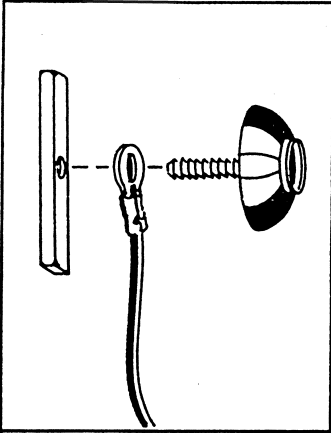

Fig. 1
- 1. Unscrew the 1 + 1 Slot Wall Connector and place the eyelet ends of the selected cables onto its screw threads.** Screw the flat bar **loosely** back onto the 1 + 1. See Fig. 1